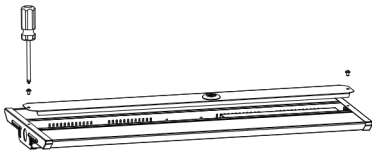

Figure 9
Step 1. Use a screwdriver to remove the face cover of the fixture. [Figure 9]